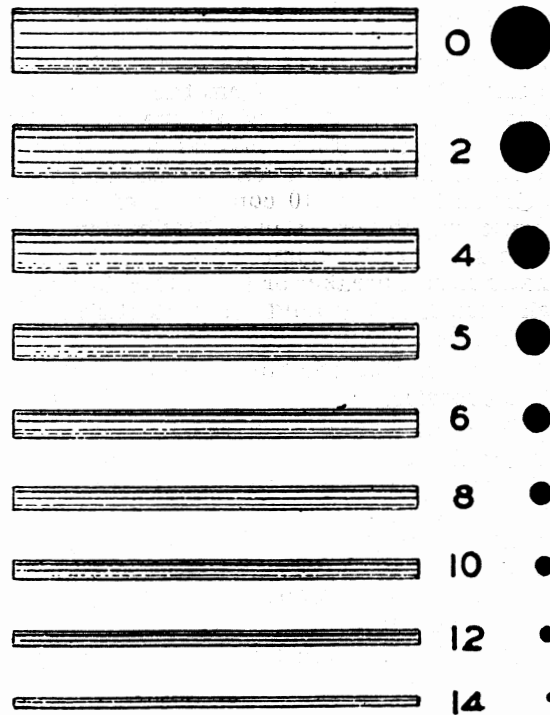

Fig. 10.—Approximate size of electric wires with insulation removed.
*The service entrance includes* the wires and entrance panel necessary to bring the electricity from the meter to the house. These wires and panel must carry all the electricity used in the home. It should, therefore, have ample capacity to carry present as well as future electrical loads. A typical service entrance as shown in Figure 10 consist of (A) entrance cable (B) service panel which serves as a distribution center where various circuits serving the home originate. It also contains either automatic circuit breaker or fuse protection against overloads on each circuit, (C) ground for protection against lightning or other excess voltage.